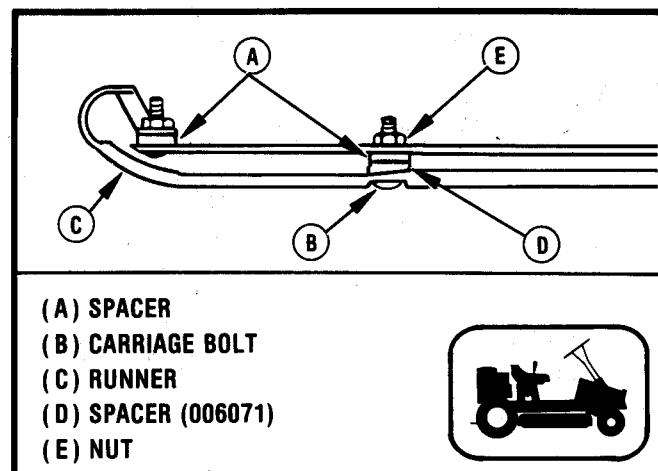

FIGURE 1-18B
- To pre-set the runners prior to a test cutting they may be adjusted as shown in Figure 1-18B.